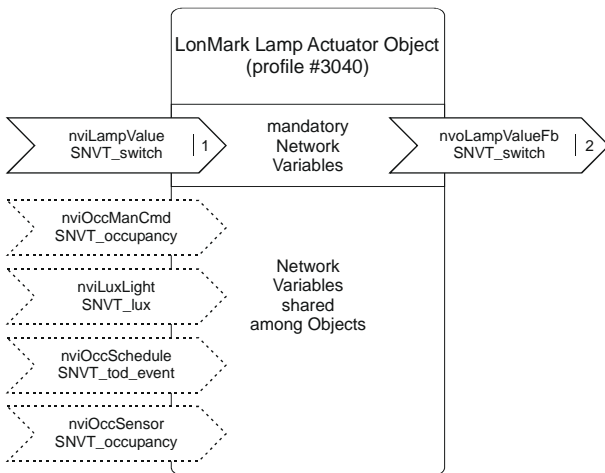

Fig. 5. Lamp Actuator Object
- trois lamp actuator objects (#3040) (see Fig. 5)